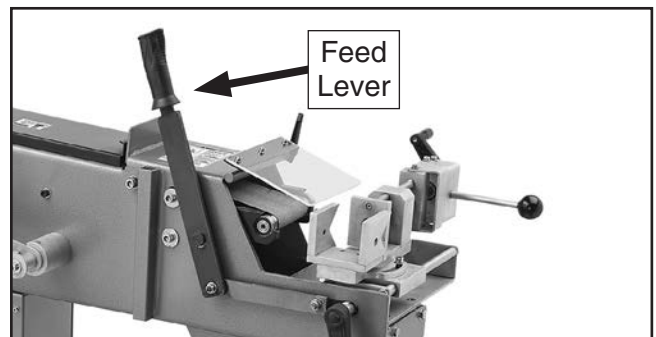

Figure 28. Feed lever pushed toward motor.
5. Push feed lever (see **Figure 28**) toward motor to move vise away from abrasive belt.